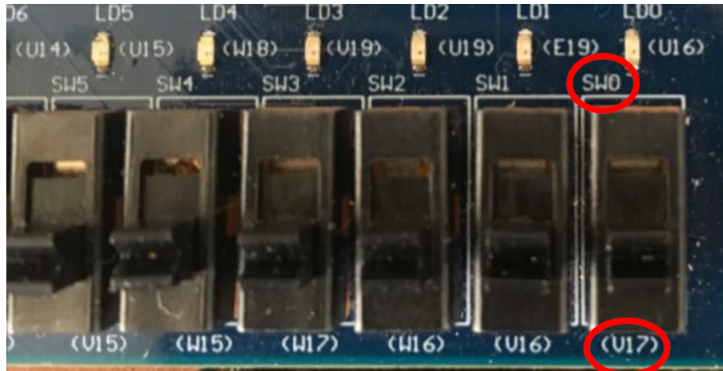

Figure 6: Constraints file for AND gate
6. Add the constraints file. Map SW0 to port a, SW1 to port b, and LED0 to port out as shown in Figure 6. Don't forget to uncomment those lines by removing the hashtag in front of the line. After you edit the constraints file, lines 12-13 in Figure 6 should look like: